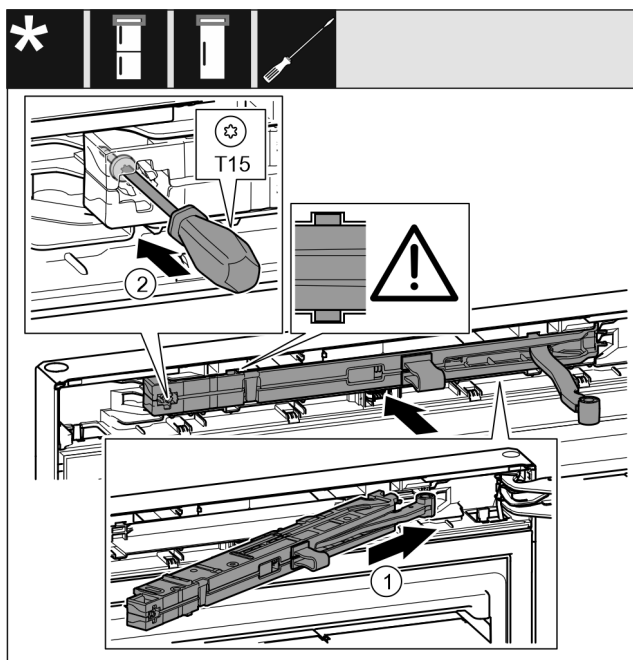

Fig. 37
- ▶ On the swap bearing block side, slide the closing damper unit Fig. 37 (1) into the recess at an angle up to the stop.
- ▶ Use a screwdriver to tighten the screw Fig. 37 (2).